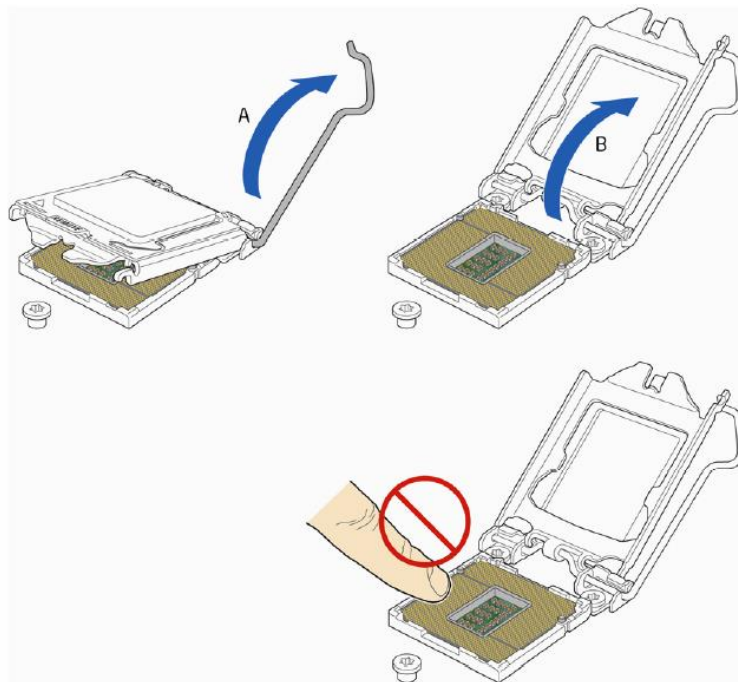

Figure 5: Lift the load plate
1. Unlatch the processor socket lever by pushing it down (Figure 5, A) and away from the socket (Figure 5, B).
2. Rotate the socket lever to lift the load plate away from the socket (Figure 5, A). Make sure that the load plate is in the fully open position (Figure 5, B) while being careful not to damage adjacent components. Do not touch the socket contacts.